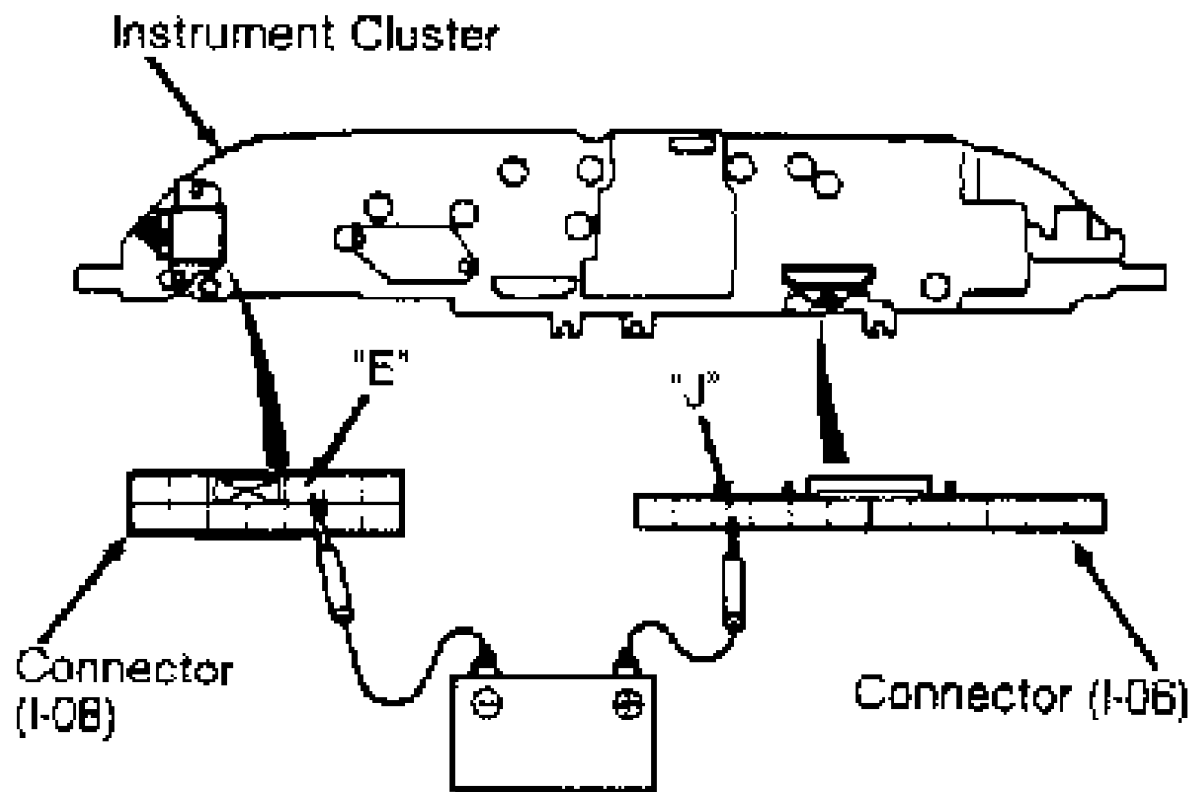

Fig. 10: Testing ANTI-LOCK Warning Light (929)
1) Start engine, and observe ANTI-LOCK light. Light should illuminate for a few seconds. If light does not illuminate as described, remove instrument cluster. Connect 12 volts to terminal "J" of instrument cluster connector I-06. See Fig. 10. Using a jumper wire, connect terminal "E" of instrument cluster connector I-08 to negative ground. ANTI-LOCK light should illuminate. If light does not illuminate, check bulb. If bulb is okay, check meter fuse and wiring harness.